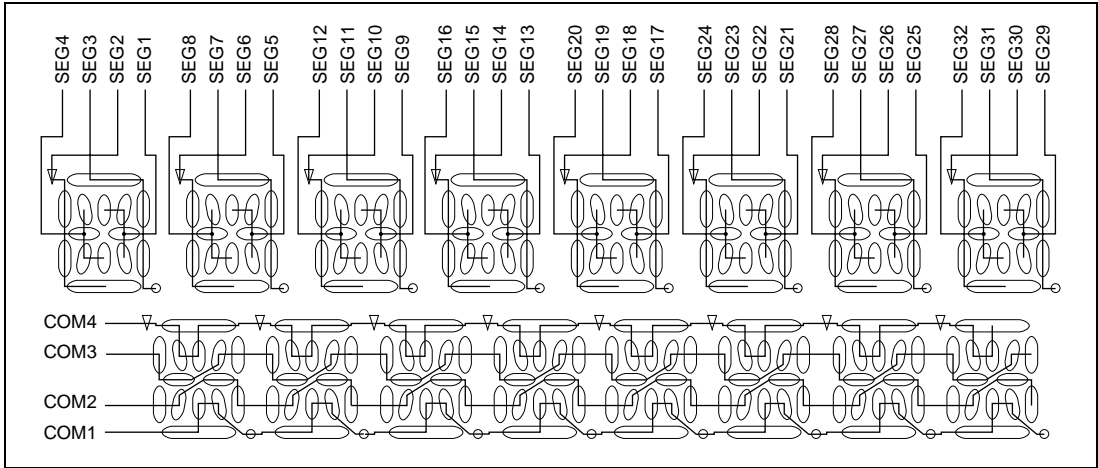

Figure 3 Connections of Segment Signals and Common Signals of the 16-Line 8-Character Segment LCD Used in this Task Example
4. In this task example, a 16-line 8-character segment LCD is used for display with segment external expansion with 1/4 duty. Figure 3 is a diagram showing connections for segment signals and common signals of the 16-line 8-character segment LCD used in this task example.